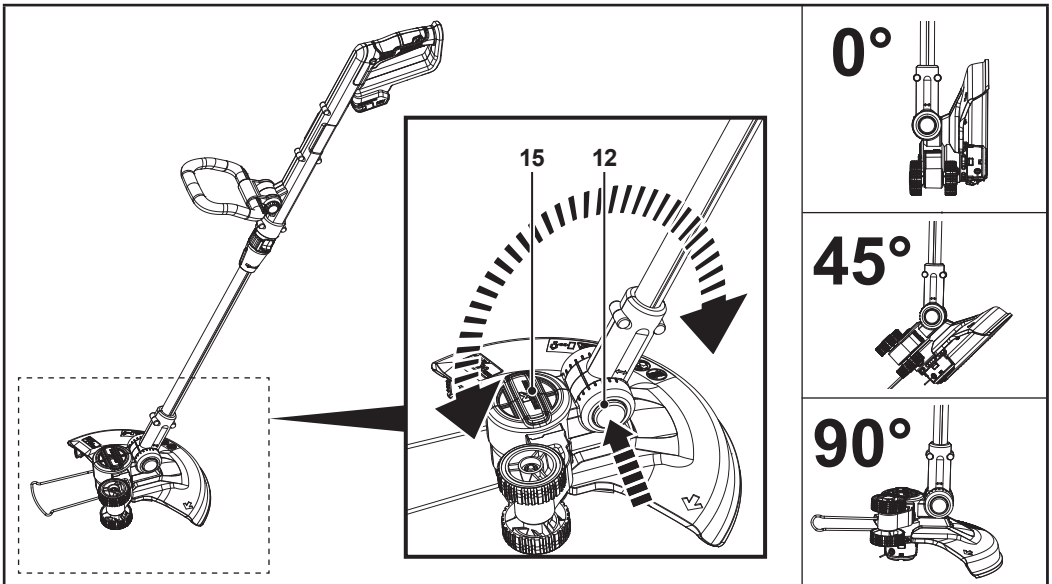

Fig. 8
NOTE: The cutting head (15) can be set to 7 positions (0°, 15°, 30°, 45°, 60°, 75°, 90°) (Fig. 8).
1. Press the cutting head lock (12) (Fig. 8).
2. Adjust the cutting head (15) angle (Fig. 8).
3. Release the cutting head lock (12).
4. Make sure that the cutting head (15) locks in place.